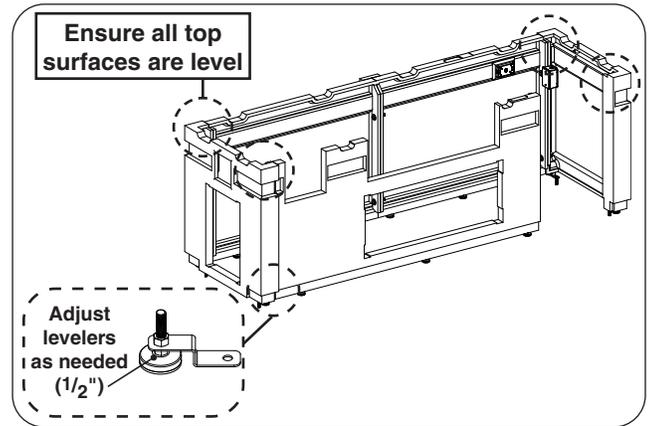

Fig. 11-1 Level assembly
1. Use the level to ensure the top surfaces of the assembly are level. The levelers at the bottom of the island may be adjusted as needed with a  $\frac{1}{2}$ " open end wrench. See Fig. 11-1.